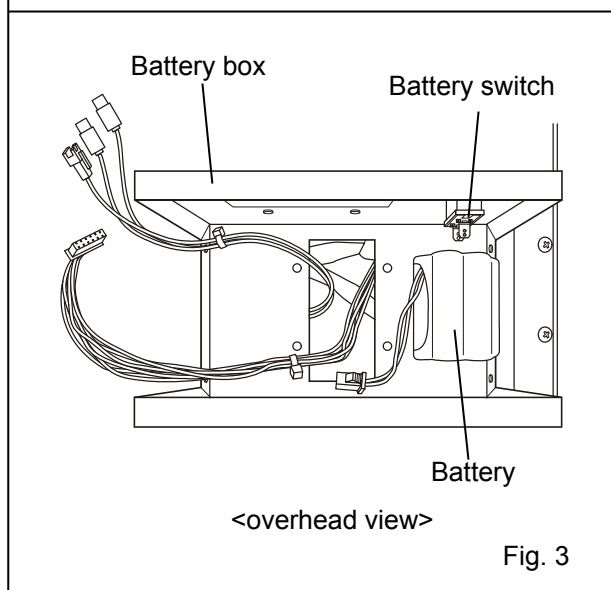

Fig. 3
4. Put the battery on the right of the battery box. [Fig. 3]